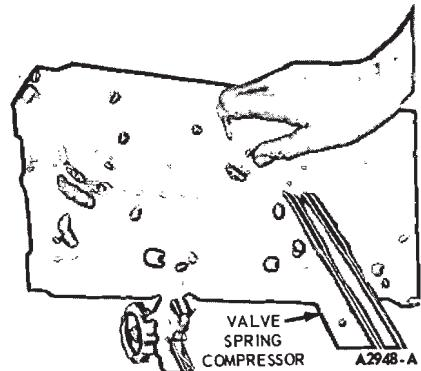

FIG. 13—Compressing Valve Spring—On Bench
3. Compress valve springs (Fig. 13). Remove spring retainer locks and release springs. Remove retainers, springs, stem seals, and valves. Discard stem seals.
2. Set valve spring and retainer over valve stem. Compress spring (Fig. 13) and install retainer locks.